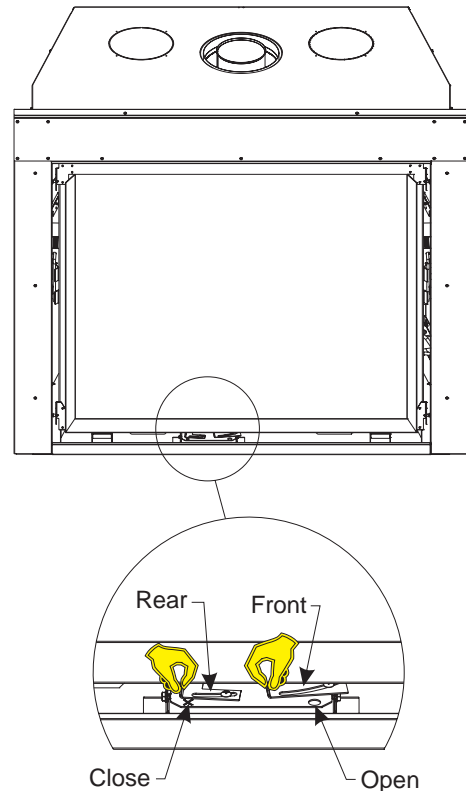

Figure 68
5. You may now adjust the air shutters. The right air shutter handle adjusts the front air shutter and the left air shutter handle adjusts the rear air shutter. Slide the air shutter handle towards the right to open and to the left to close. **See Figure 68.**